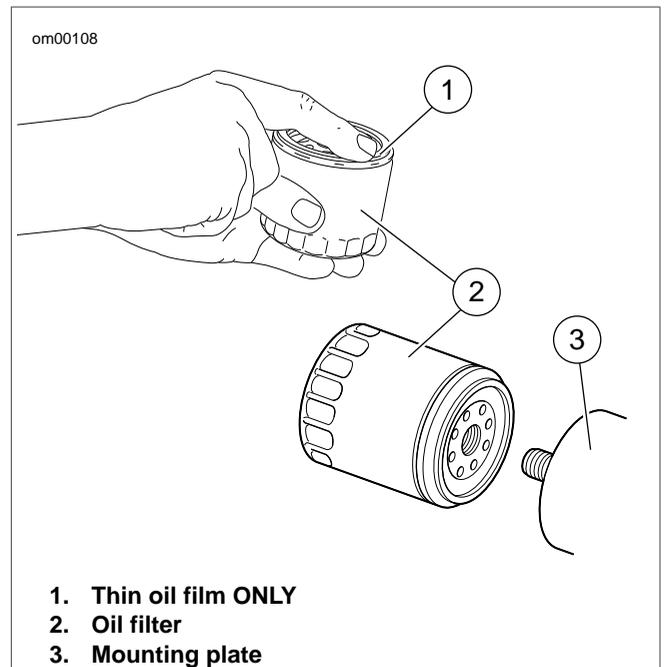

Figure 1-6. Applying Thin Oil Film
- See Figure 1-6. Lubricate gasket with clean engine oil and install **new** oil filter on filter mount. Hand tighten oil filter 1/2-3/4 turn after gasket first contacts filter mounting surface. Do not use OIL FILTER WRENCH (Part No. HD-42311) for oil filter installation.